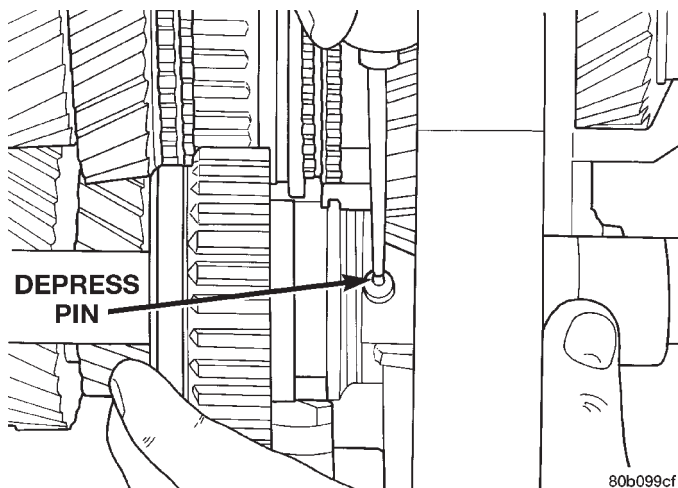
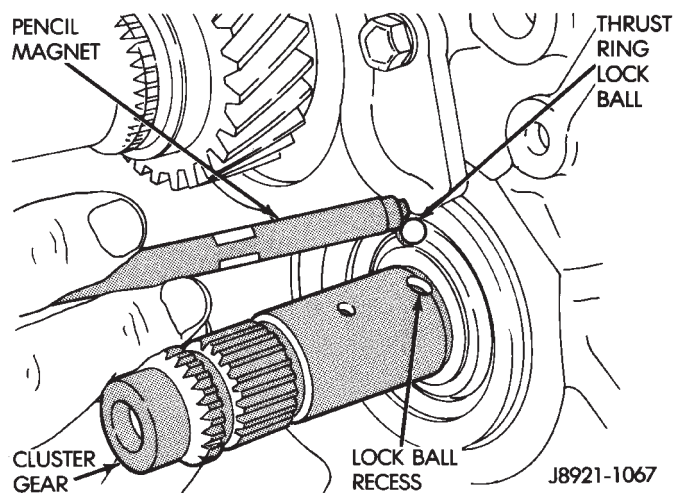

Fig. 92 Depress Pin In Reverse Idler Gear Shaft
Fig. 93 Install Fifth Gear Thrust Ring Lock Ball
(35) Depress compression spring and pin in reverse idler gear shaft (Fig. 92).
(36) Install the reverse idler gear shaft the remainder of the way through the reverse idler gear assembly.
(37) Position the reverse idler gear shaft lock plate onto the intermediate plate.
(38) Install a new bolt to hold the idler gear shaft lock plate to the intermediate plate.
(39) Install the fifth gear thrust ring lock ball to the countershaft (Fig. 93).